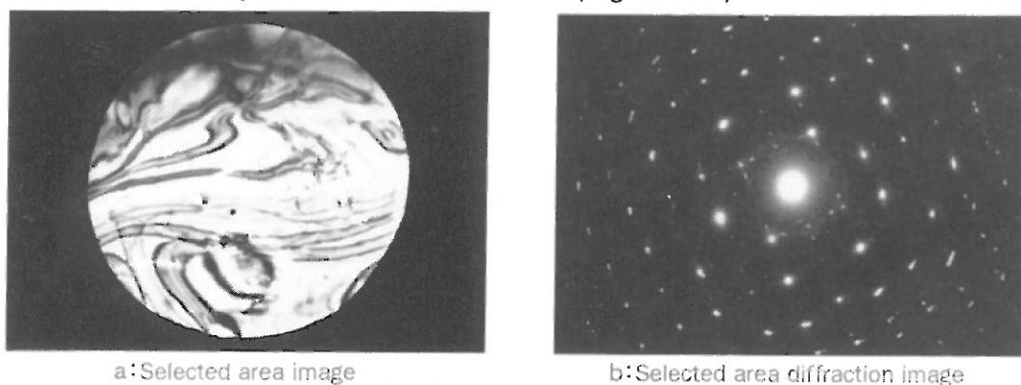

Fig. 5.27 Selected area diffraction (SAD)
7. Adjust the FOCUS knob (R1-⑧) to obtain the sharpest diffraction pattern. A diffraction pattern like that shown in (Fig. 5.27-b) can be obtained.